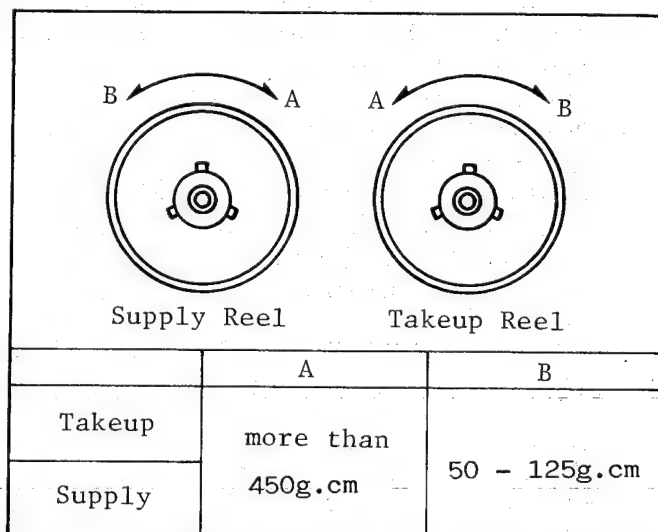

Fig. M18-2 Confirmation of Brake Torque
5. Turn torque gauge in either direction indicated in the Fig.M18-2 and read the gauge when the brake begins slipping.